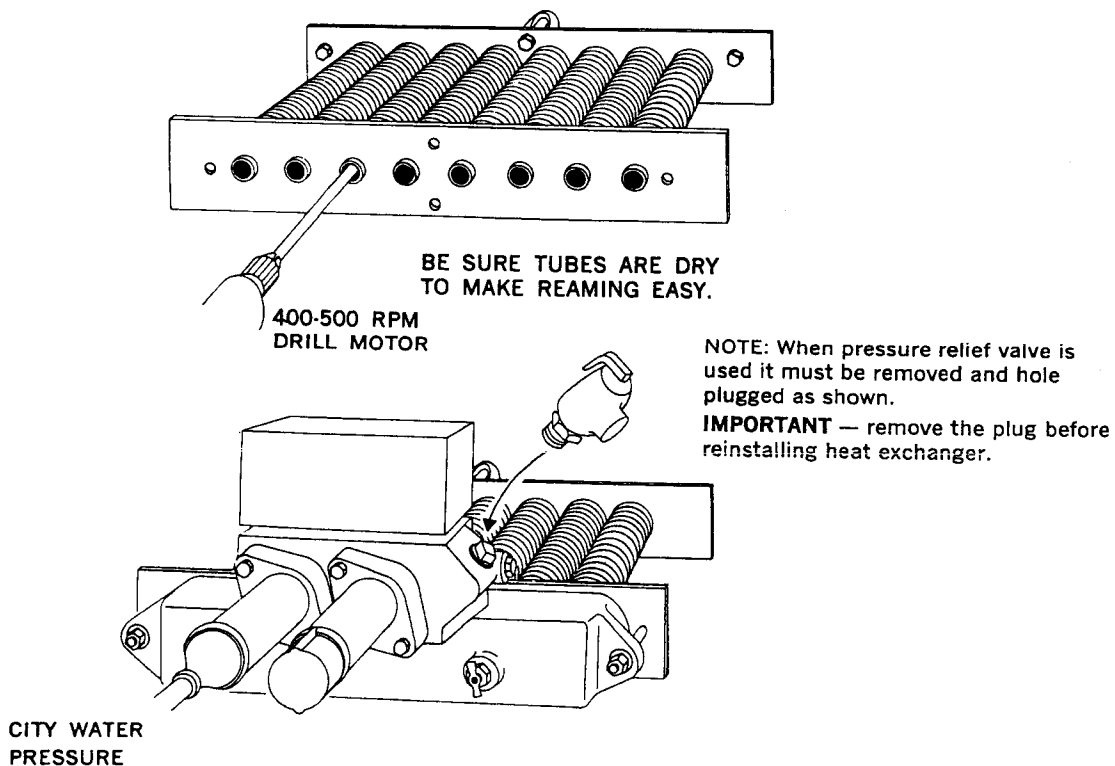

FIG. 30
The tubes may be reamed out as shown in Fig. 30. For easy reaming, dry the heat exchanger first. Also, withdraw the reamer frequently to remove lime powder and prevent the drill bit from binding in the tube.
5. Pressure test heat exchanger for leaks with city water pressure before re-installing. See Figure 30.